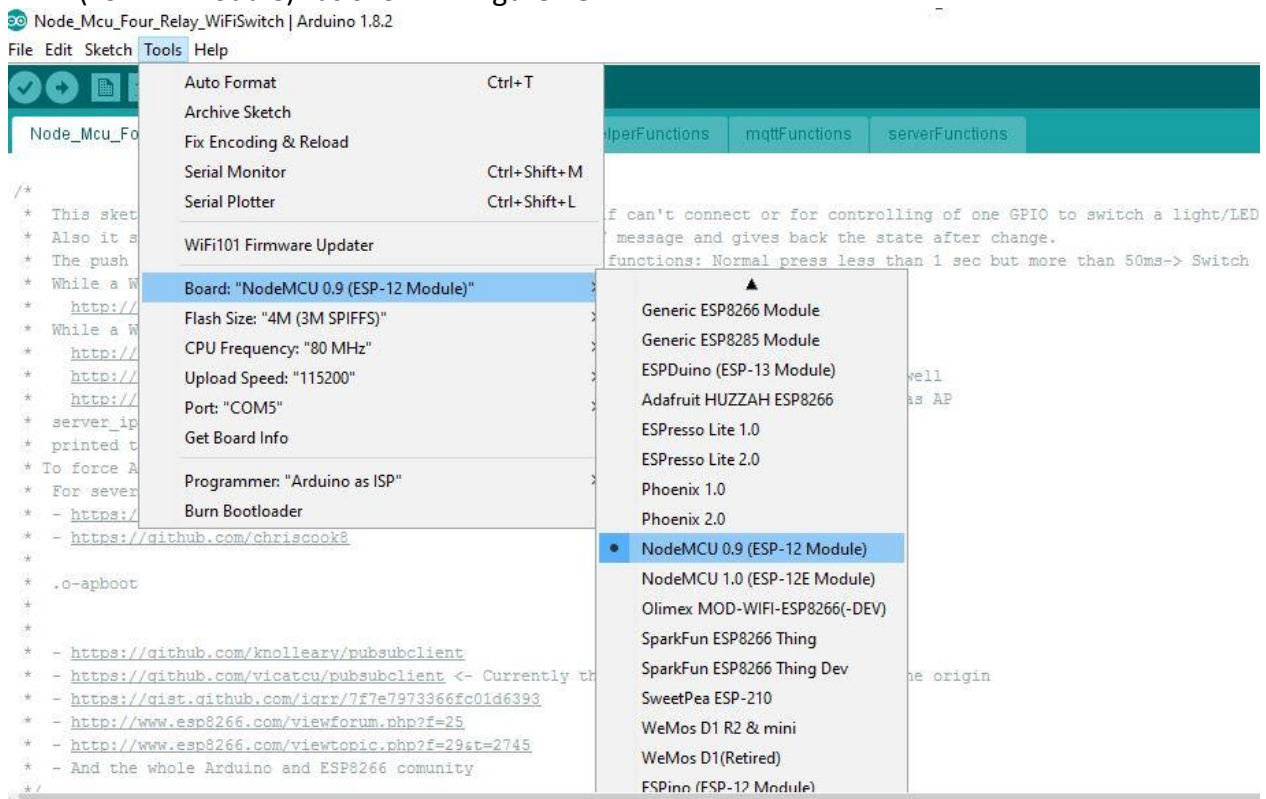

Figure 19: Board Selection
- Click on tools tab, move mouse pointer to “Programmer: “Arduino as ISP””, under this click on “Arduino as ISP” to select. Refer to figure 19